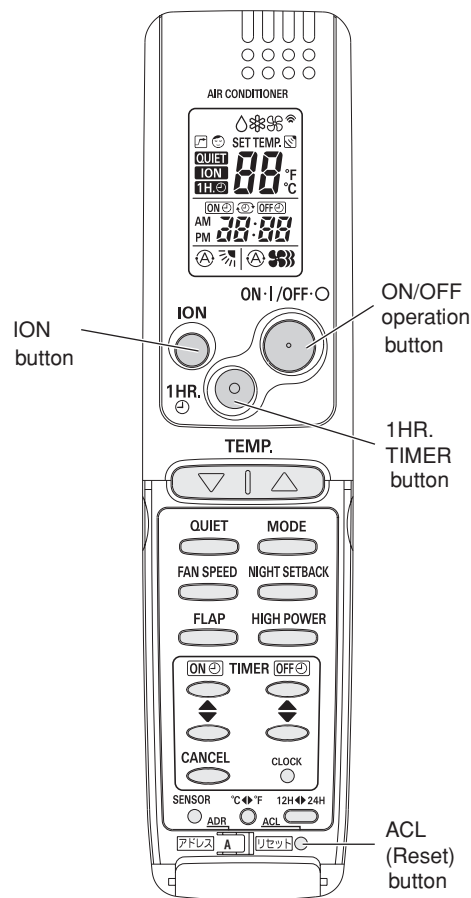

Fig. 59a
- (1) Set the remote controller in Test Run mode. (Fig. 59a)
- (2) Start Cooling mode test run by pressing the ON/OFF operation button of the remote controller. (Fig. 59a)
- (3) Press the ON/OFF operation button of the remote controller again to stop the test run. (Fig. 59a)
- (4) Finally press the ACL (reset) button of the remote controller to release it from Test Run mode to return to normal mode. (Fig. 59a)